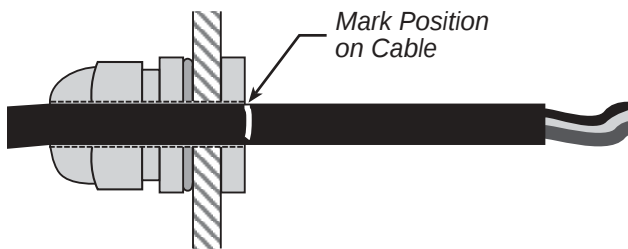

Figure 2-1. Mark Length of Cable at Inside of Cord Grip
3. Loosen cord grips, then route cables through cord grips. Determine cable length required to reach connector J1. Mark the cable at the inside edge of the cord grip (see Figure 2-1 on page 5).